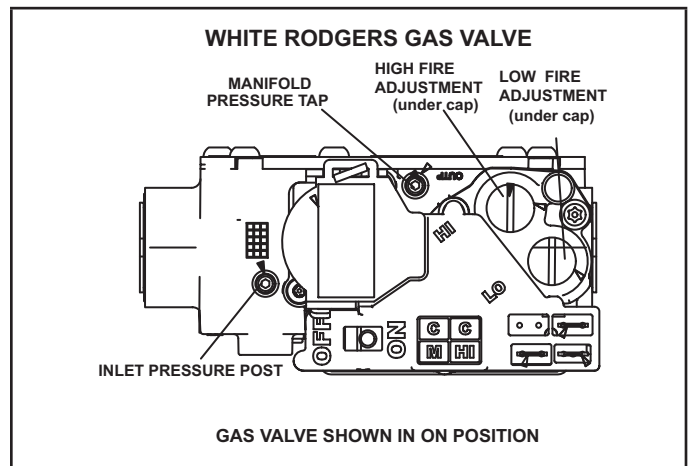

FIGURE 40
Gas Valve Operation (FIGURE 40)
- 6 - Move switch on gas valve to OFF. Do not force. See FIGURE 40.
- 8 - Move switch on gas valve to ON. Do not force. See FIGURE 40.
An inlet post located on the gas valve provides access to the supply pressure. See FIGURE 40. Back out the 3/32" hex screw one turn, connect a piece of 5/16" tubing and connect to a manometer to measure supply pressure. See TABLE 29 for supply line pressure.
A manifold pressure tap located on the gas valve provides access to the manifold pressure. See FIGURE 40. Back out the 3/32 hex screw one turn, connect a piece of 5/16" tubing and connect to a manometer to measure manifold pressure.
- 4 - If necessary, make adjustments. FIGURE 40 shows location of high fire and low fire adjustment screw.